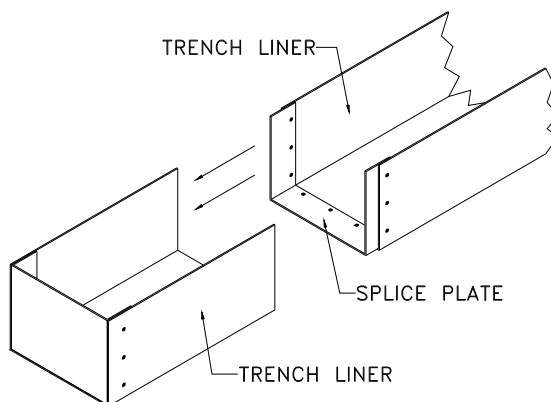

Figure 13
**STEP 5.** Slide the free end of the attached splice plate into the receiving end in the mating section of the trench liner (see Figure 13). Ensure that the mating sections of the trench liner are level, the proper width, and properly aligned. Ensure that the mating sections of the liner abut as closely as possible with one another.